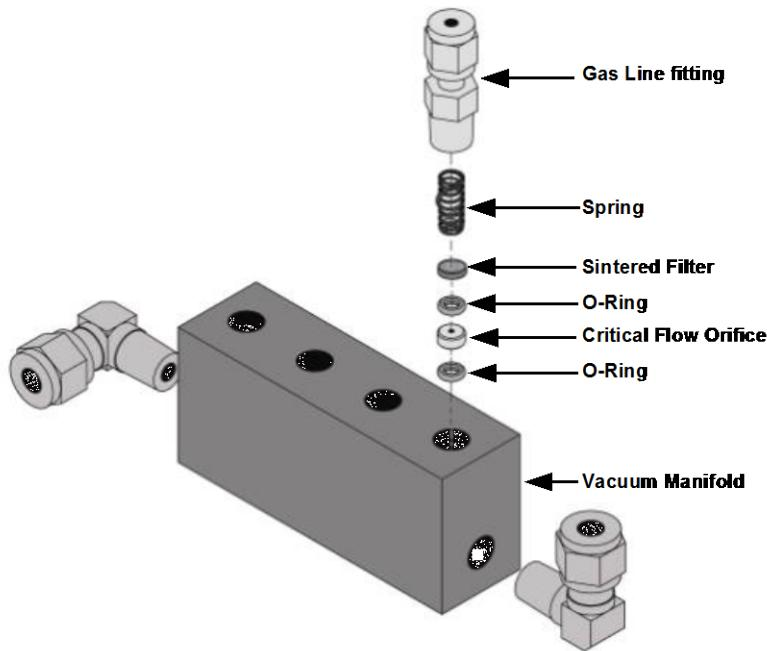

Figure 8-4. Critical Flow Orifice Assembly
2. Locate the critical flow orifice on the pressure sensor assembly (called out in Figure 8-4).
8. Re-assemble the parts as shown in Figure 8-4 using a new filter and O-rings.